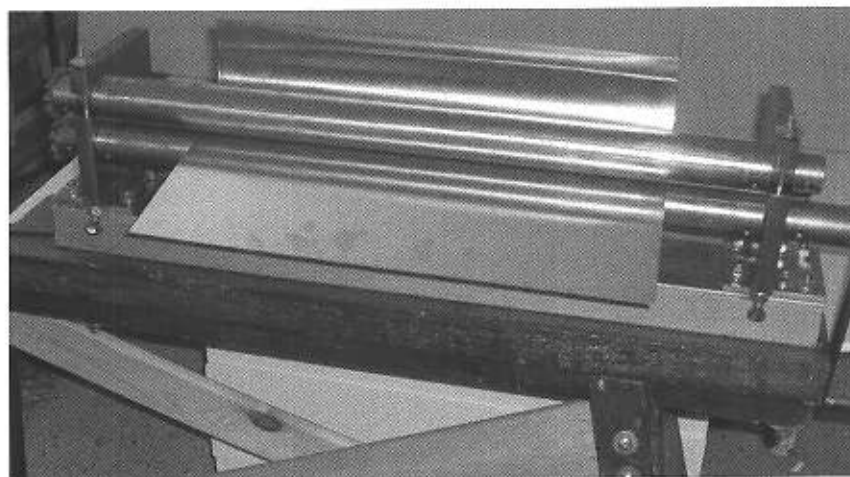
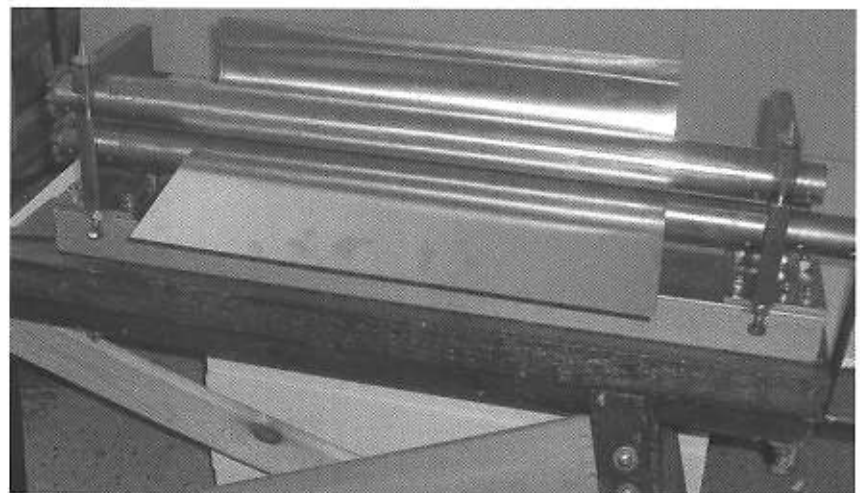

Fig 3A. Starting to roll
Fig 4. Cylinder ready for soldering seam
Fig 4. Paillard list of available cylinders for Style 801 interchangeable boxes - forty six-air cylinders available from stock in London. The original has a pencil note to the effect 'Each new cylinder 35/-, £1 15s 0d (£1.75) at the time.'
Having decided on cylinder size and chosen 3 possible gauges of brass sheet from which to make it, how are they formed? A slip roll machine to accommodate 18" cylinders is an expensive item, especially if it is to be used only for making a few musical box cylinders. An easy to make model is described by ref 2: your author's machine, based on ref 2, was made with 24" rollers and is shown in figs 2A, B and C. A subsidiary fourth roller was added below the bending roller to add support because only 3 thick tubing was available as opposed to 3/16" (4.75) called for by ref 2. Figs 3A and B show the slip roll machine in use to produce the cylinder ready for soldering at fig 4. For the novice who might be using a slip roll machine for the first time